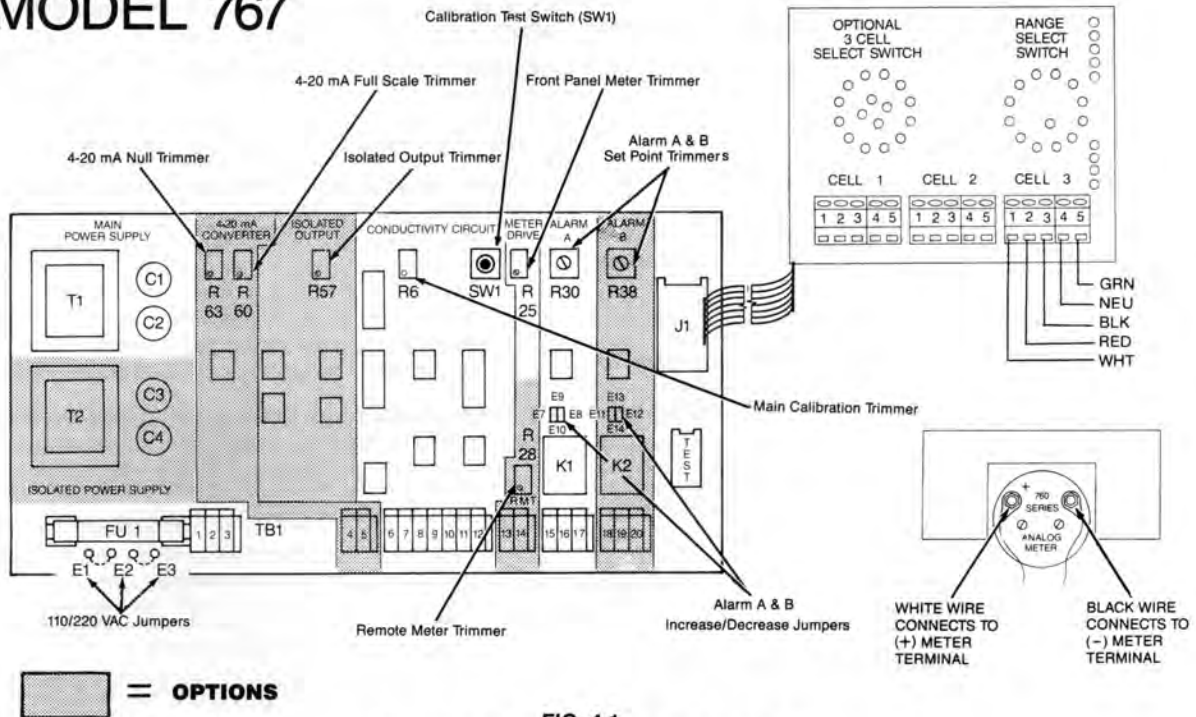

FIG. 4-1
The alarm circuit(s) on all 750/760 Series Conductivity Monitors are configured to trigger the alarm relay as the conductivity (or ppm) reading increases. If the user's application requires it, the alarm circuit may be easily reconfigured to trigger the alarm relay as the conductivity (or ppm) reading decreases. Refer to Fig. 4-1 for the locations of the jumpers referred to in this section.
- STEP 2 While depressing the "SET POINT CHECK" switch, turn the Monitor's Set Point trimmer adjustment screw (See Fig. 4-1) until the desired set point value is indicated on the meter display.
The following check-out procedures are used to verify that a 750/760 Series Conductivity Monitor is operating properly. It is assumed that the Monitor is powered ON, that it is connected to a CS51 or CS52 Cell, and that the Cell is immersed in water within the range that the Monitor will be required to read. Refer to Fig. 4-1 for the locations of the components referred to in this section.
Refer to Fig. 4-1 to locate the components described in this section.
- STEP 4 Turn the 4-20 mA Null trimmer (R23) (see Fig. 4-1) until the test meter indicates 4 mA.
- STEP 6 Turn the 4-20 mA Full Scale trimmer (R20) (See Fig. 4-1) until the test meter indicates 20 mA.